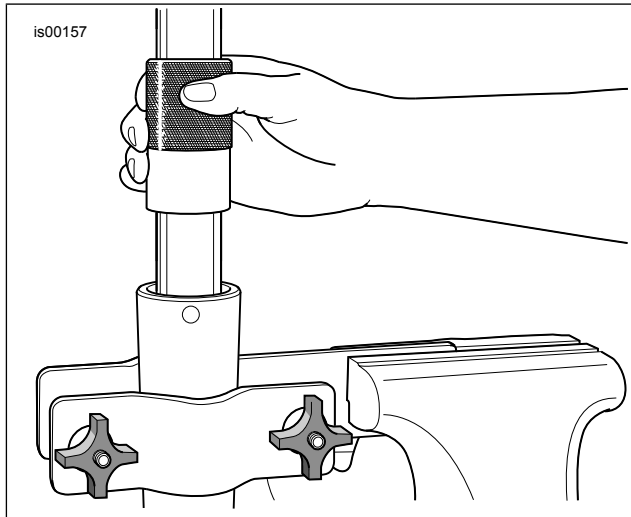

Figure 2. Install Fork Oil Seal
2. Insert spring (12) and spring collar (J) into fork tube, with dense section of coils toward damper tube. Push bottom of damper tube through the opening at the bottom end of the fork tube. Place oil lock (K) over end of damper tube.
3. Apply Loctite 565 Thread Sealant to screw (14). Position fork tube and damper tube in fork slider (L). Hold the assembly in place by exerting pressure on the spring. Install screw (14) with copper washer (10) from kit.
5. Coat inner diameter (ID) and outer diameter (OD) of slider bushing (H) with clean fork oil. Slide slider bushing down fork tube (either direction).
6. Slide slider washer (G) down fork tube until it contacts slider bushing (either direction).
7. Coat the ID of the **new** fork oil seal (8) with clean fork oil. Coat the OD of the fork oil seal with Harley-Davidson Seal Grease. With the lettering side facing up, slide fork oil seal down the fork tube until it contacts the slider washer.
8. See Figure 2. Obtain the Fork Seal/Bushing Tool (HD-45305) and proceed as follows:
- b. See Figure 2. Using the tool like a slide hammer, drive fork oil seal (with slider washer and slider bushing) down the fork tube until retaining clip groove is visible in fork slider ID.
2. Keep the fork compressed and remove it from the fork tube holder. Clamp the fork slider right-side up in the fork tube holder. Slide the damper cartridge (7) into the fork assembly so that it seats in the center of the oil lock.
4. Apply Loctite 565 Thread Sealant to screw (11). Install screw with copper washer (10) from kit. Slide screw through hole at bottom of fork slider and start into end of damper cartridge.
6. Install **new** fork spring (6) into fork tube (D), with dense section of coils toward damper cartridge.
9. Coat slider bushing (H) ID and OD with clean fork oil. Slide slider bushing down fork tube (either direction).
10. Slide slider washer (G) down fork tube until it contacts slider bushing (either direction).
11. Coat the ID of the **new** fork oil seal (8) with clean fork oil. Coat the OD of the fork oil seal with Harley-Davidson Seal Grease. With the lettering side facing up, slide fork oil seal down the fork tube until it contacts the slider washer.
12. See Figure 2. Obtain the Fork Seal/Bushing Tool (HD-45305) and proceed as follows:
- c. Slide the retaining clip (F) down the fork tube until it contacts the fork oil seal. Install retaining clip in the fork slider groove. Do not expand or stretch retaining clip to install on fork tube or clip may be damaged.